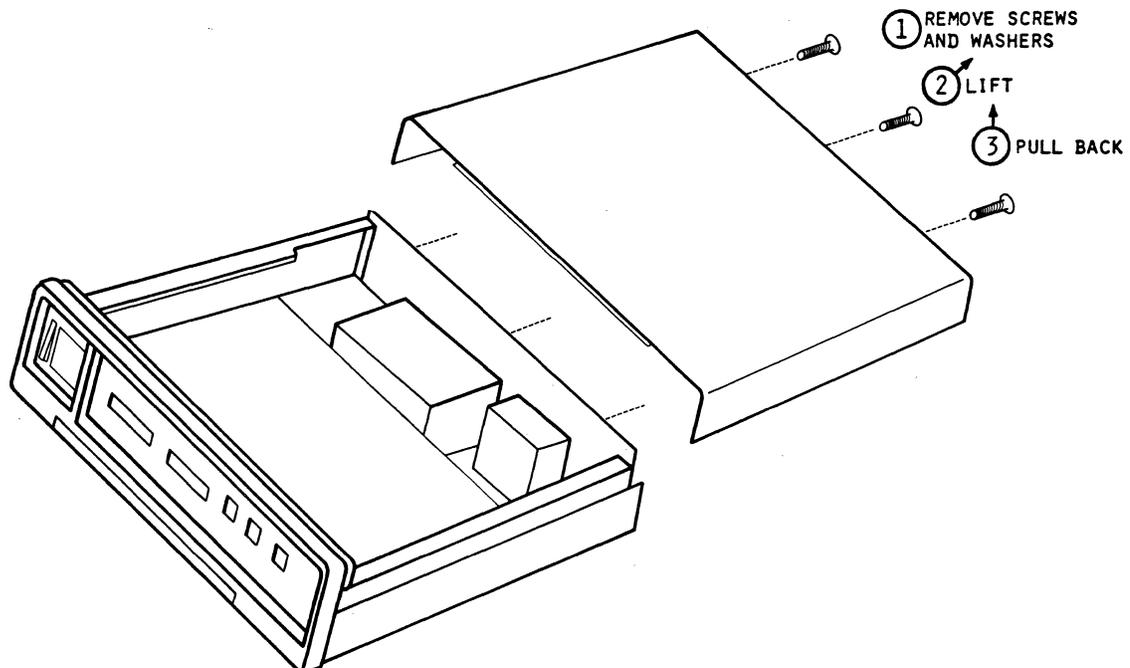

Figure 3-9. Top Cover Removal
3. Remove the three screws and washers that secure the top cover of the unit, at the left, center and right of the rear panel, as shown in Figure 3-9. Store the screws and washers in a safe place.
4. Grasping the rear of the top cover, lift it upward and rearward to release the cover from the front panel (Figure 3-9).